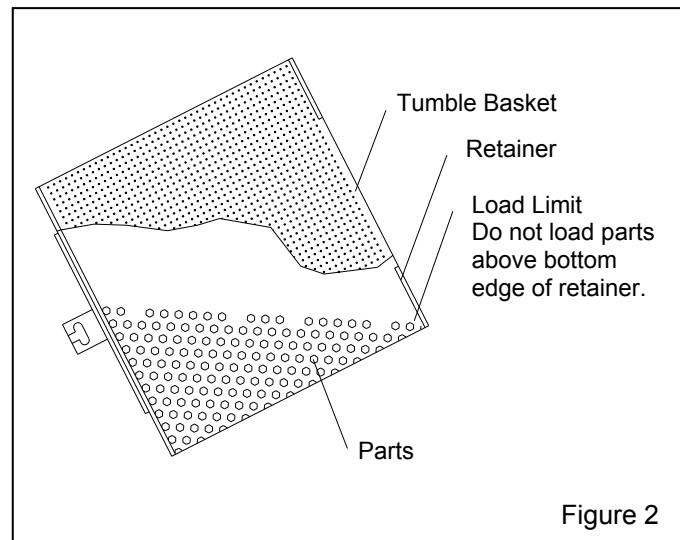

Figure 2
**3.3.2** Load parts directly into the tumble basket. Do not overload the basket; maximum load should not exceed 25 lb., or the bottom edge of the retainer as shown in Figure 2.
3.4.4 Load media and parts. Note load limit in Figure 2.